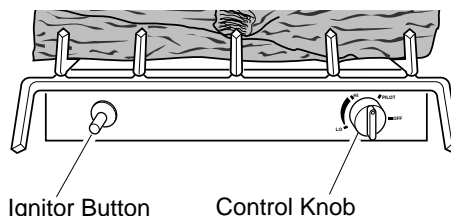

Figure 23 - Control Knob and Ignitor Button Location
4. Wait five (5) minutes to clear out any gas. Then smell for gas, including near the floor. If you smell gas, **STOP!** Follow "B" in the safety information. If you don't smell gas, go to the next step.
5. Slightly depress and turn control knob counterclockwise to the PILOT position. Press in control knob for five (5) seconds (see Figure 23).